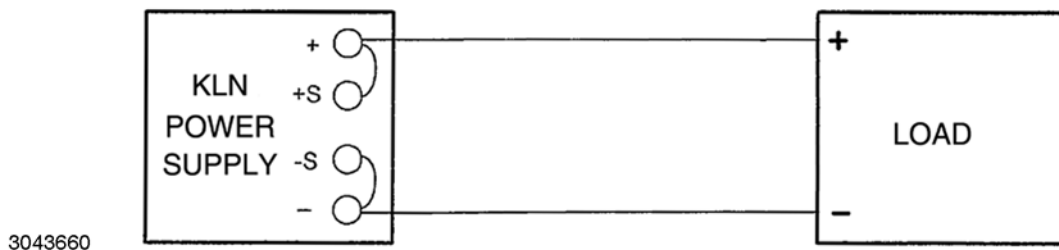

FIGURE 2-12. LOAD CONNECTIONS, LOCAL SENSING
1. With power supply disconnected from source power verify that sense connections are correct: +S is connected to +POS and -S is connected to -NEG (see Figure 2-12).
- **IF LOCAL SENSING IS USED:** Install red and black sense leads supplied (see Figure 2-12).
Figure 2-12 shows a typical configuration using local sensing. Local sensing is recommended for a high noise or switching mode load such as d-c to d-c or d-c to a-c converter.